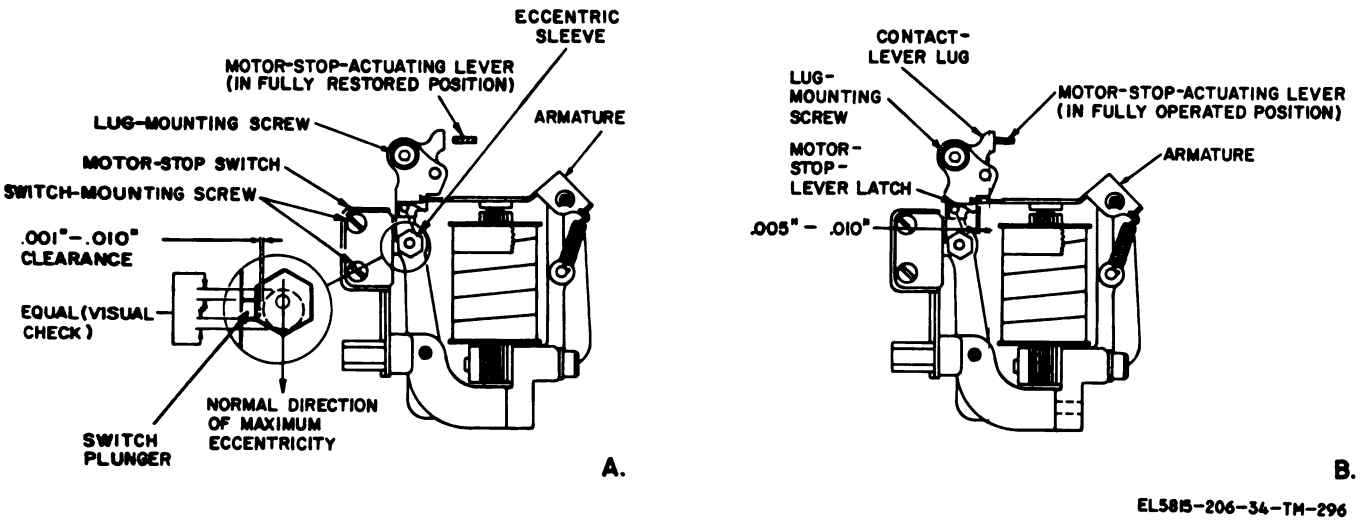

Figure 3-224. Motor-stop switches, eccentric sleeves, and contact lever lug adjustments (TT-4B/TG, TT-4C/TG, TT-335/TG, and TT-537/G).
(1) Maximum eccentricity of the eccentric sleeves should be in the direction shown in A, figure 3-224.
(2) Each switch plunger should be centered with its sleeve (visual check) and a .010-inch maximum clearance should be present between the plunger and its associated sleeve when the contact lever and armature are as shown (A, fig. 3-224).
(B, fig. 3-224)
0.010-inch clearance between each eccentric sleeve and its associated switch plunger when the contact-lever is in the maximum clockwise position (A, fig. 3-224).